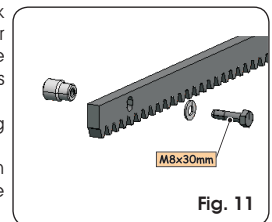
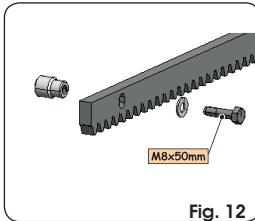
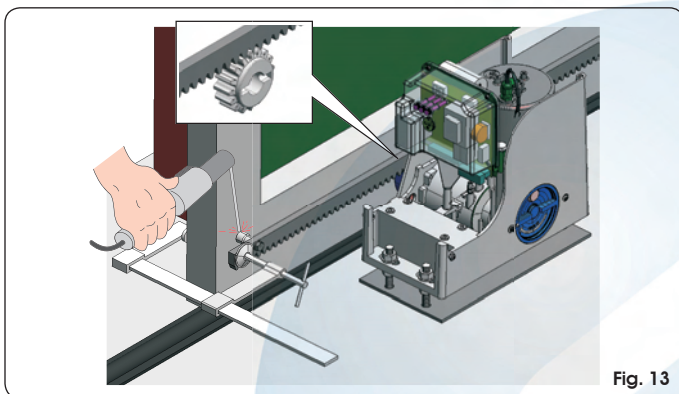
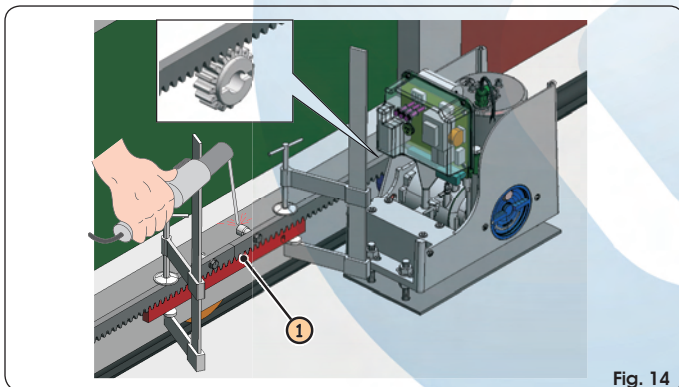

Fig. 11
Fig. 12
Fig. 13
Fig. 14
5.4.1. STEEL RACK TO BE WELDED (Fig.11)
- ① Fit the three threaded pawls on the rack element, positioning them on the upper part of the slot. In this way the clearance on the slot will enable any adjustments long-term.
- ② Manually move the leaf to its opening position.
- ③ Lay the first piece of rack level on the pinion and weld the threaded pawl on the gate as shown in Fig.13.
- ④ Manually move the gate, checking if the rack is resting on the pinion and weld the second and third pawls.
- ⑤ Fit another rack element next to the previous one, using a piece of rack, as shown in Fig.14 ref. ①, to synchronise the teeth of the two elements.
- ⑥ Move the gate manually and weld the three threaded pawls. Carry on like this until you have fully covered the gate.
5.4.2. STEEL RACK TO BE SCREWED (Fig. 12)
- ① Manually move the leaf to its opening position.
- ② Rest the first section of rack on the pinion, positioning the spacer between the rack and the edge of the gate. Using a spirit level, check if the rack is horizontal and mark the perforation point with a felt-tipped pen.
- ③ Drill with a 6.5 mm diameter bit, and thread with an M8 male element. Screw the bolt.
- ④ Manually move the gate, checking if the rack is resting on the pinion and repeat the operations in point ③.
- ⑤ Fit another rack element next to the previous one, using a piece of rack, as shown in Fig. 14 ref. ①, to synchronise the teeth of the two elements.
- ⑥ Move the gate by hand and perform the securing operations as for the first element, carrying on like this until you have covered the gate completely.